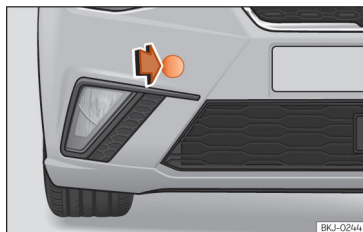

Fig. 155 Front bumper on right: remove the lid.
The housing of the removable towline anchorage is on the right side of the front bumper underneath a cover >>> Fig. 155.
- Remove the cover by pressing down on its base and leave it hanging from the vehicle >>> Fig. 155.